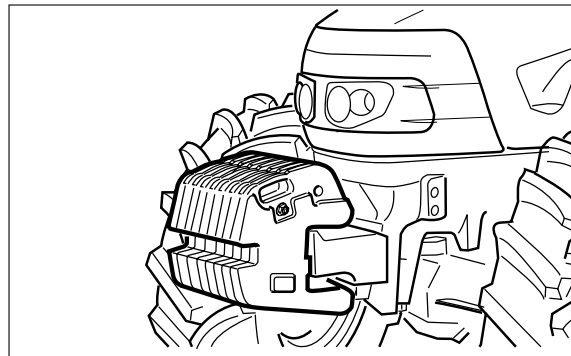

Fig. 2-26
- Use front counterweights to increase tractor stability when towing a heavy load or to counterbalance a heavy rear mounted implement (Fig.2-26).